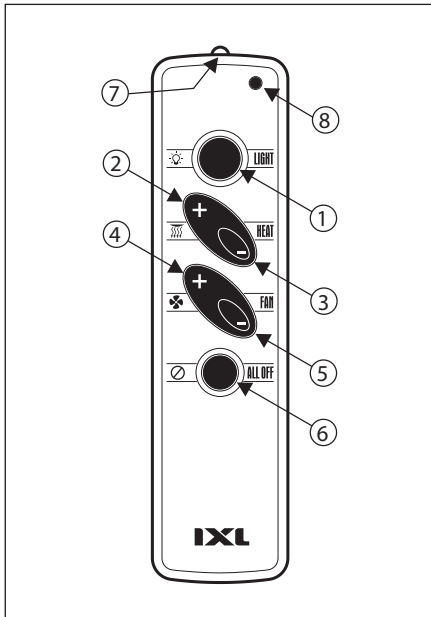

Fig. 25
All functions are controlled by the Smart Switch (Fig. 25), a battery powered wall mounted remote unit that sends an Infra red (IR) signal to a receiver mounted in the Tastic Neo fascia. Subsequent signals go to the Control Unit mounted on the top of the Tastic Unit.